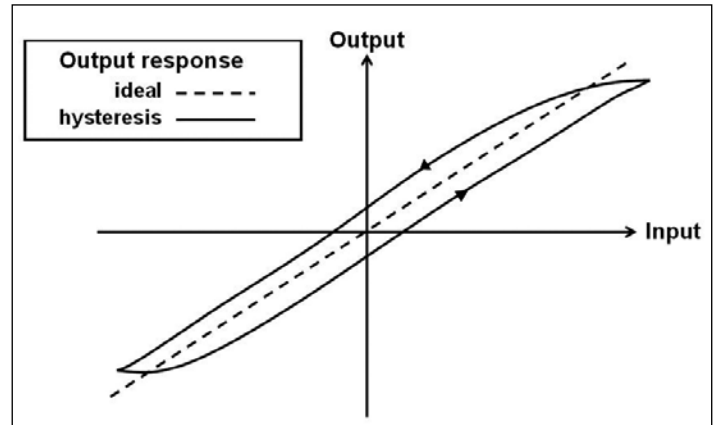

Figure 15. Hysteresis – for a certain input the output is different, depending on whether the input is increasing or decreasing
- minimal *hysteresis* within the system (Figure 15),